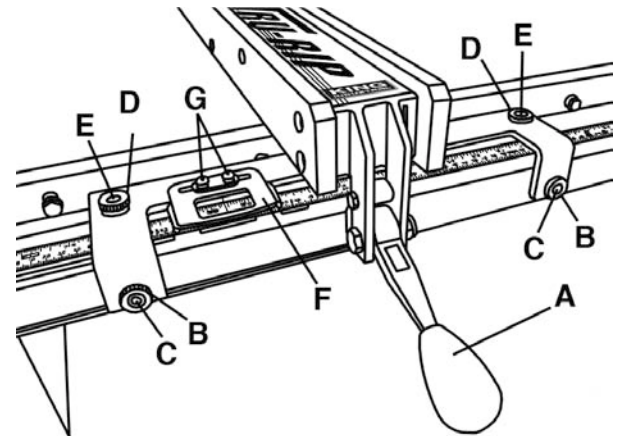
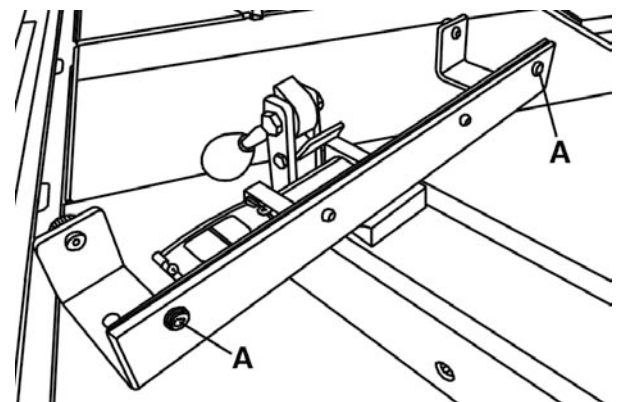

FIGURE 2
FIGURE 3
The rip fence must be perfectly aligned with the table T-slot, to verify this, place rip fence on table and align the edge of the rip fence with the table T-slot, lower the locking lever (A) Fig.2 to lock it into place. Check to see if the edge of the rip fence and the table T-slot are parallel. If they are not parallel, unlock the rip fence and turn it upside down as shown in Fig.3. Adjust the set screws (A) Fig.3 in or out, verify your adjustment, repeat if necessary.
The lock lever pressure can be adjusted by loosening the front lock nuts (B) Fig.2 and adjusting the set screws (C) the same amount, make sure the fence remains parallel with the table T-slot. Retighten lock nuts.
The pointer window (F) Fig.2 position can be adjusted if needed, loosen pan head screws (G), reposition the pointer window and retighten pan head screws.